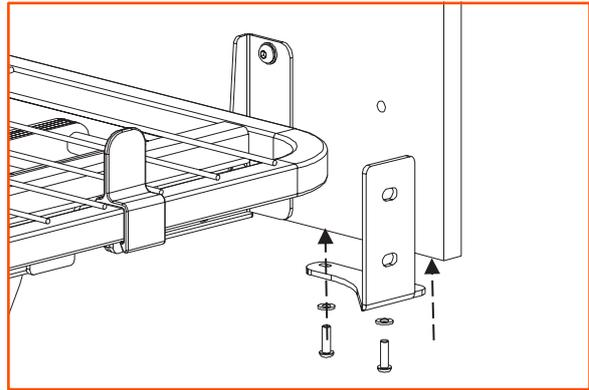

Figure 9.3
- Fit the four side panel end brackets to the bottom edge of the head and footboards with the M6 x 20mm bolts and washers as shown in Figure 9.3. Leave the bolts slightly loose.